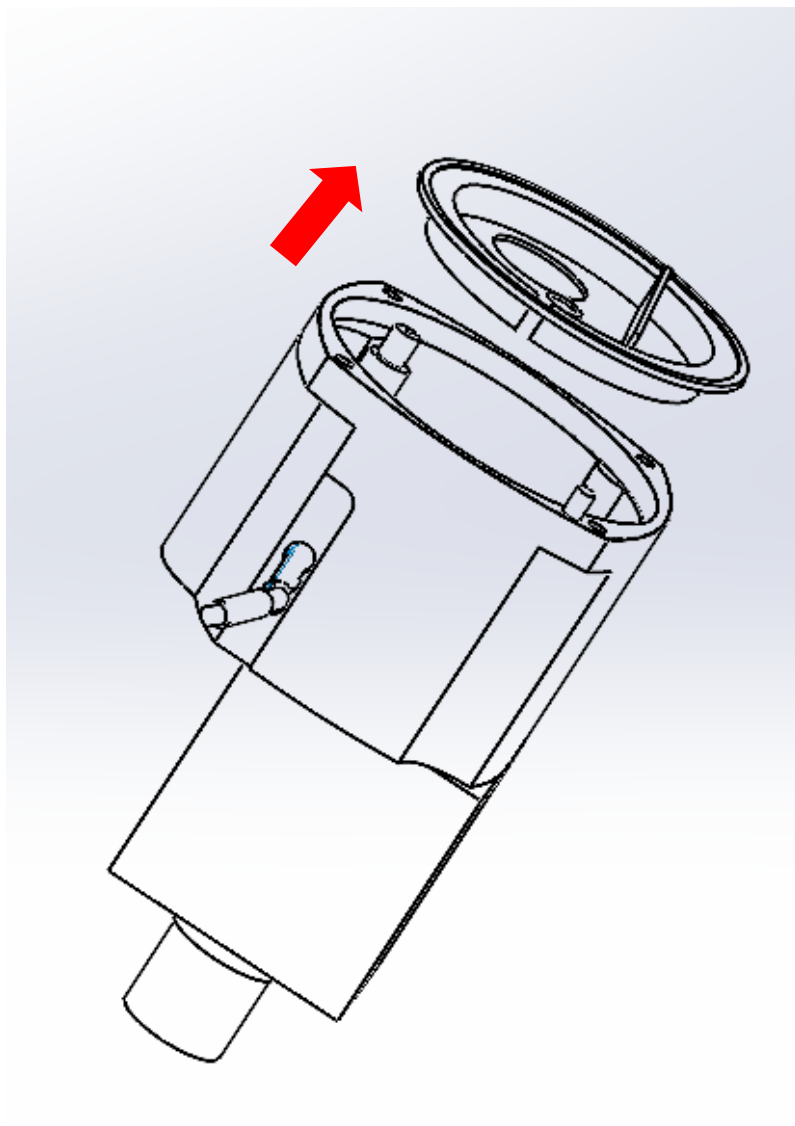

Figure 1.18
1.7.1 Remove the sealing lip of the grease chamber (see figure 1.18);